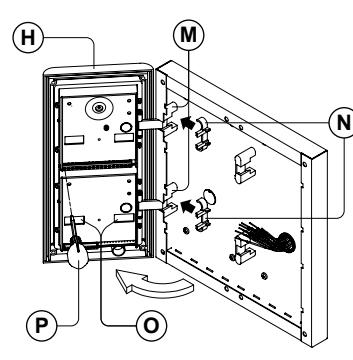

fig. 10
7. As shown in **Fig. 10**, open the module support frame **H** as suggested by the pointer, hook the hinge locks **N** to the hinges **M**, make the required connections using the screwdriver provided **P** (flat blade end) and make the required adjustment by adjusting the settings (through openings **O**) and adjust trimmers;